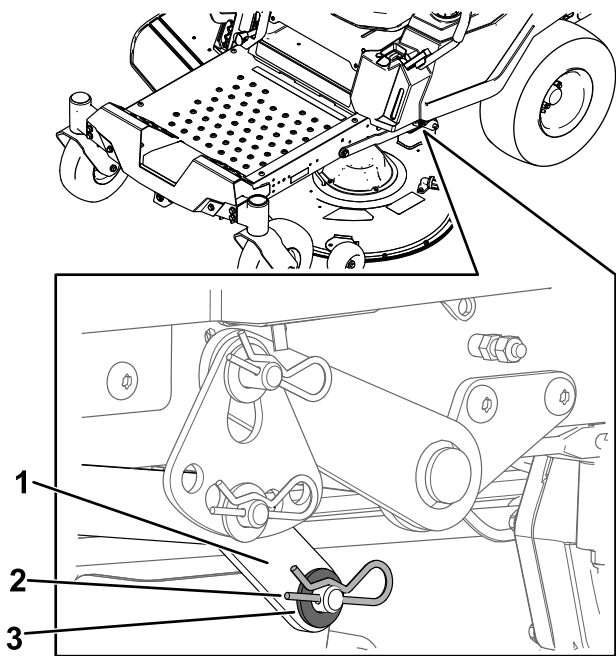

Figure 67
6. On 1 side of the machine, remove the washer and hairpin cotter from the deck pin (Figure 67).
7. Remove the lift arm from the deck pin (Figure 67).
5. On 1 side of the machine, lift the rear of the mower deck and install the lift arm to the deck pin (Figure 67).
6. Install the lift arm using the washer and hairpin cotter (Figure 67).